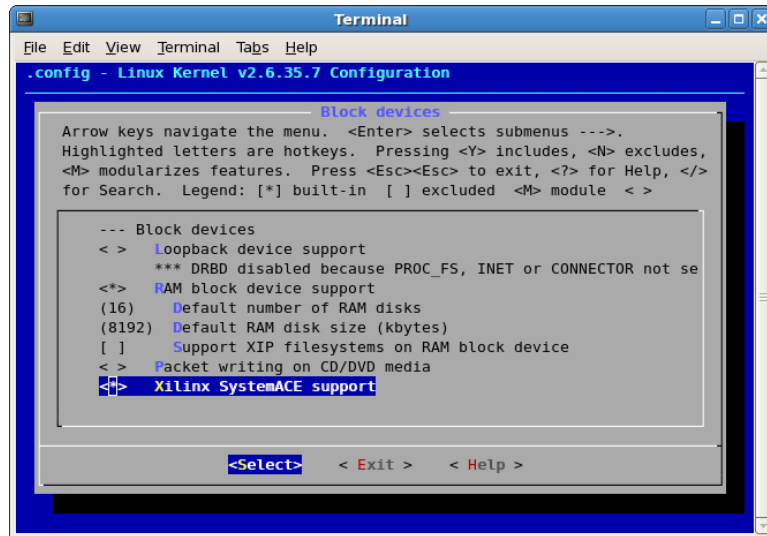

Figure 3: SystemACE Device Driver Support
- (g) Now we must ensure the SysACE block device drivers are enabled in the kernel. This will provide the CF read/write capabilities from within the kernel. Return to the main menu of ‘menuconfig’ and select ‘Device Drivers’ and then ‘Block devices’. Locate the ‘Xilinx SystemACE support’ option and ensure it is selected. See Figure 3